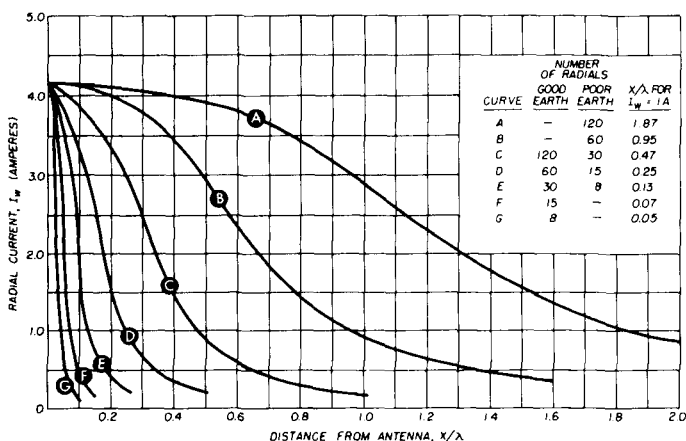

fig. 1. Radial current vs distance from antenna for different numbers of radials in poor and good earth.
fig. 1. Vertical plane patterns for quarter-wave vertical tilted away from the normal by an angle of 45 degrees (A) and horizontal dipole at a height of $\frac{3}{8}$ wavelength (B). The patterns for an arbitrary azimuth bearing fall within the width of the solid curve for the tilted vertical (A) and within the shaded region for the horizontal dipole (B). Perfect ground is assumed for both cases.
A graphical summary of the theoretical performance of a tilted vertical and horizontal dipole is presented in fig. 2. The curves of relative signal strength incorporate not only the variation in radiated field strength of the ground station antennas shown in fig. 1 but also the varying distance separating the antenna and the satellite as elevation angle changes during a pass. It is convenient to arbitrarily normalize all curves to zero dB at an elevation angle of 90 degrees. Therefore, comparisons between different antennas should be restricted to relative changes in signal strength for corresponding changes in elevation angle. Fig. 2 indicates that a vertical tilted 30 to 45 degrees provides a response which varies less than 6.0 dB, even for an overhead pass. Tilt angles which fall outside this range cause antenna performance to deteriorate.
To design the radial system you need to know how many radials to use and how long they should be. A look at how the radial currents drop off as you go further from the antenna provides the necessary information. This is illustrated in **fig. 1**, which shows radial current (I_w
You can see from **fig. 1** that long radials should be used with a large number of radials, and vice versa. Therefore, this situation for vertical antenna radiation is somewhat different from that of obtaining a low ground resistance where you can trade-off number of radials for length of radials. The proper radial length depends upon the number used, local
Table 2 shows that, if you have poor earth, the radials should be two to four times longer than for conditions of good earth. There is, of course, no harm in using longer radials, and you can use **fig. 1** as a guide for your own location.